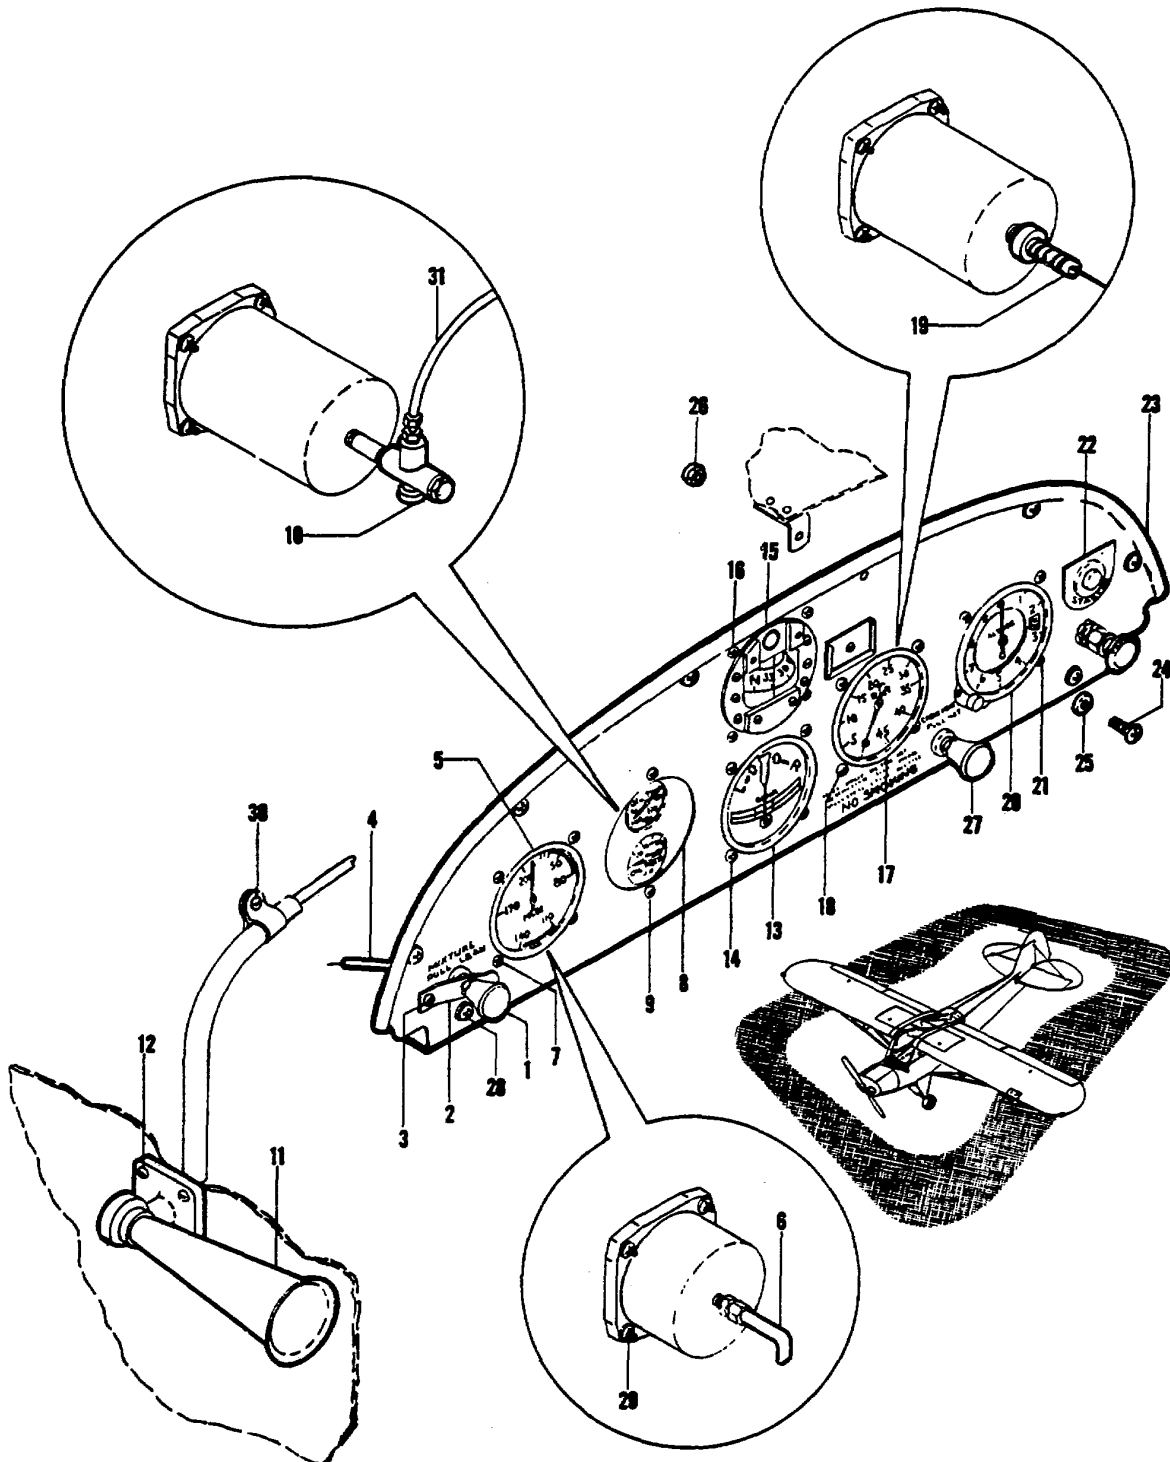
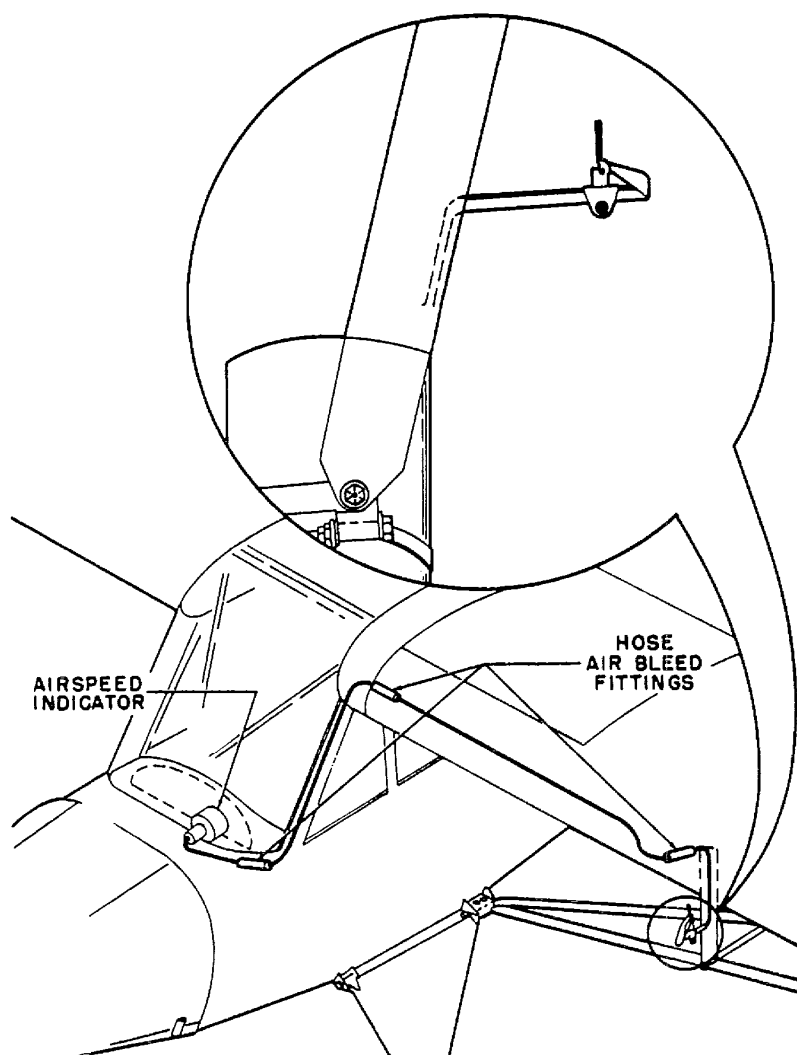

Figure 6-1. Instrument Panel Installation
Figure 6-2. Pitot Static System (Wing Panel to Instrument Panel)
6-2. DESCRIPTION. (See figure 6-1.) The aluminum alloy instrument panel mounted on the front of the cockpit contains seven instruments: air-speed indicator, compass, tachometer, altimeter, turn and bank indicator, and combination oil pressure and oil temperature gage.
6-3. SERVICING THE INSTRUMENT PANEL. (See figure 6-1.) The instrument panel (23, figure 6-1) may
Foreign material in air-speed indicator hose	Disconnect air-speed indicator hose (6, figure 6-1) from instrument panel and pitot head (figure 6-2). Clean all lines with compressed air and reinstall.
Leak in air-speed indicator hose	Check all hose (figure 6-2) and connections for leakage and replace damaged parts.
Instrument mounting is loose	Tighten the four screws holding air-speed indicator to the instrument panel. (See figure 6-1.)
6-5. SERVICING THE AIR-SPEED INDICATOR. (See figure 6-1 and 6-2.) The air-speed indicator is model USAF TYPE B-8.
a. Examine the air-speed indicator (5, figure 6-1) for obvious minor damage such as cracks, loose dial glass, damaged or corroded tubing, and for loose connections. Replace defective parts.
b. In order to remove the air-speed indicator, proceed as follows: Remove the four attaching screws and nuts (29) that hold the instrument to the instrument panel (23). Lift the air-speed indicator out of the instrument panel. Disconnect the air-speed indicator hose (6) on the back of the instrument.
b. In order to remove the compass, proceed as follows: Remove the four assemblies of screws, nuts, and washers (16) that secure compass to instrument panel (23).
6-7. SERVICING THE TACHOMETER. (See figure 6-1.) The tachometer is model USAF TYPE C-11.
a. Inspect the tachometer (17, figure 6-1) for obvious damage such as cracks, loose dial glass, insecure mounting, or a damaged tachometer shaft. Replace tachometer if found to be defective in any way.
b. In order to remove the tachometer, proceed as follows: Remove four sets of screws and nuts (18) that secure tachometer to the instrument panel (23). Lift the tachometer out of the instrument panel. Disengage the tachometer shaft (19) from the tachometer body.
Insecure mountage	Secure mounting screws (14, figure 6-1).
6-9. SERVICING THE ALTIMETER. (See figure 6-1.) The altimeter is model USAF TYPE C-13.
a. Inspect the altimeter (20, figure 6-1) for obvious damage and for security of mounting.
b. In order to remove the altimeter, proceed as follows: Remove the four attaching screws and nuts (21)
Legend for Figure 6-1.
Obstructions in venturi or tubing to the instrument	Disconnect tubing and clean with compressed air. Clean venturi throat and opening (11, figure 6-1).
(See figure 6-1.) The turn and bank indicator is model USAF TYPE 1719.
- a. Examine the turn and bank indicator (13, figure 6-1) for obvious damage and for security in its mounting. Replace this instrument if any defects are found.
- b. In order to remove the turn and bank indicator, proceed as follows: Remove the four sets of screws and nuts (14) that secure the turn and bank indicator to the instrument panel (23). Disassemble screw and
Dirty or damaged suction regulating valve	Replace suction regulating valve (10, figure 6-1).
6-13. SERVICING THE OIL PRESSURE AND OIL TEMPERATURE GAGE. (See figure 6-1.) The oil pressure and oil temperature gage is model U. S. GAGE NO. BK-3-1/2-U-274.
a. Inspect the combination oil pressure and oil temperature gage (8, figure 6-1) for loose dial glass, insecure mounting, and damaged or deteriorated oil pressure line. Replace any defective parts with new units.
b. In order to remove the combination oil pressure and oil temperature gage, proceed as follows: Remove the two sets of screws, bushings, and nuts (9) which hold the gage to the instrument panel (23). Disassemble oil pressure line (31) and remove suction regulating valve (10). Lift the gage out of the instrument panel.
6-15. DESCRIPTION. (See figure 6-2.) The pitot static
system serves the air speed indicator (5, figure 6-2). The dynamic pressure pitot head is located on the left front jury strut. The dynamic pressure line runs from the jury strut up into the left wing panel to the wing root and down along the left windshield post to the air speed indicator fitting (figure 6-2). There are no static pressure lines in this system. Since the cabin is not pressurized, the static pressure is obtained directly at the air speed indicator casing through a fitting equipped with an air filter. The pressure differential developed between the dynamic-pressure pitot head and the air speed indicator static-pressure fitting when the airplane is in motion operates a pressure sensitive mechanism reading indicated air speed.
6-16. SERVICING THE PITOT STATIC SYSTEM. (See figure 6-2.) Examine all hose and connections for leakage, deterioration, obstructions or damage. Replace damaged parts with new ones. To remove obstructions, disconnect hose from the pitot head and from the air speed indicator and clear with compressed air. Clean the pitot head in a similar manner.